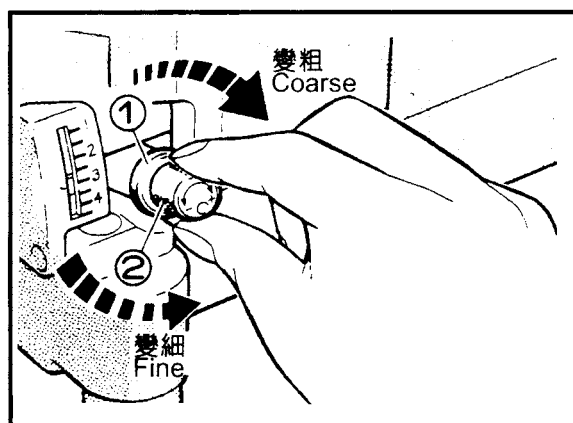

Fig.14
Turn Knob ① clockwise, the stitch length becomes short, on contrary, it becomes long. (Fig.14)